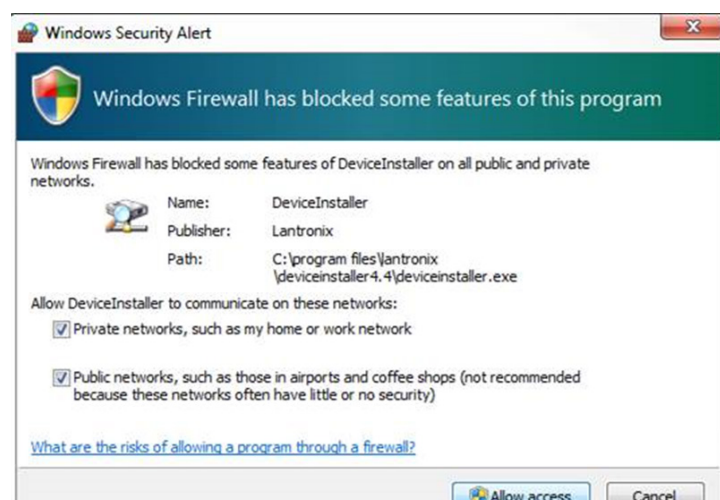

Figure 35 Disable Firewall to Allow Access
7. If a firewall is present, disable it to allow access (Figure 35).